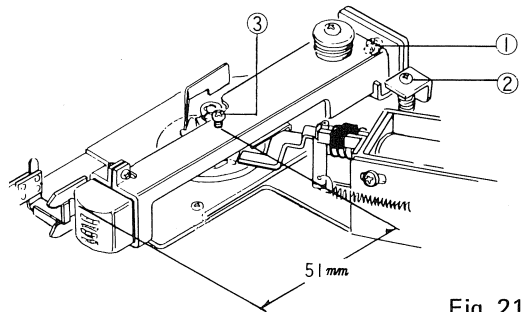
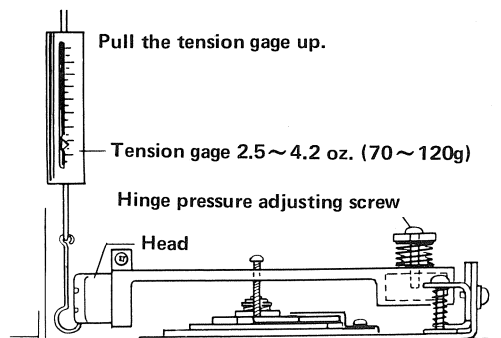

Fig. 21
Fig. 22
4. Put the head back into the head holder, and secure the head with the screw to the dimension shown in Fig. 21.
2. See if the head is positioned to the dimension shown in Fig. 21.
3. Loosen the azimuth adjusting screw ① by turning it $1/3$ or $1/2$ turn.
4. Adjust the head azimuth. Play the test tape "326" (8,000Hz) and adjust the azimuth adjusting screw ② so that the V.T.V.M.'s may deflect to the maximum reading.
5. Adjust the crosstalk. Play the crosstalk-adjustable test tape "328", and adjust the height of the head by means of the screw ③, so that the difference of output among each track may be maximum.
7. Check the head pressure (Fig. 22). Leave the head tilted downward. Hook the tension gage at the front bottom of the head and pull the head up. See if the tension gage reads 2.5 to 4.2 oz (70 to 120g). If it does not, adjust the position of the head by means of the hinge pressure adjusting screw.